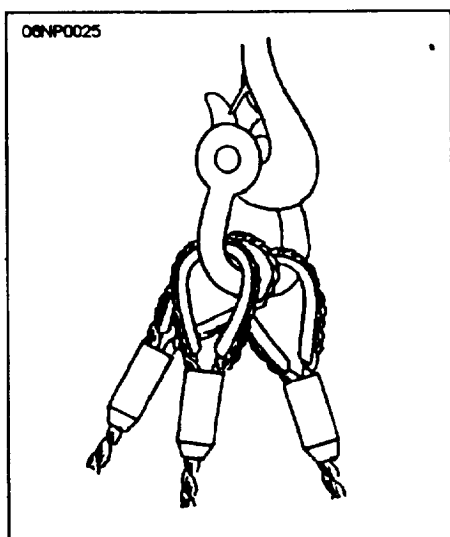

Figure 1-20.—Shackle use with two or more wire ropes.
- Whenever two or more wire rope eyes must be placed over a hook, install a shackle on the hook with the shackle pin resting in the hook and hook the wire rope eyes to the shackle. This will prevent the spread of the sling legs from opening up the hook and also prevent the eyes from damaging each other when under load (fig. 1-20).